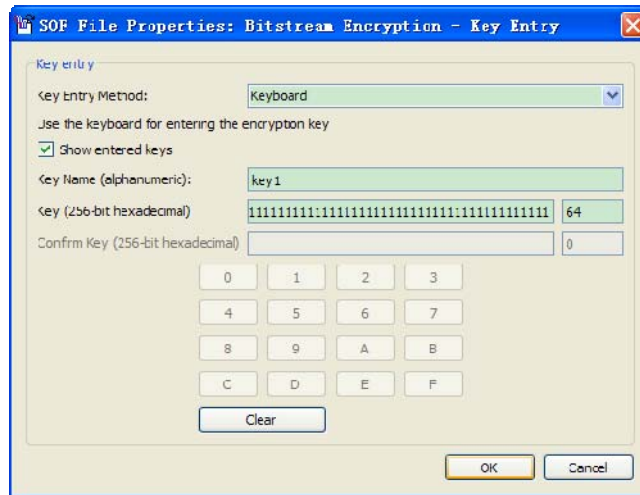

Figure 3-6 Key Entry dialog box
- o. Add the keys to the pull-down list either with a .key file or the Add button. The Add and Edit buttons bring up the **Key Entry** dialog box. The Delete button deletes the currently selected key from the pull-down list, as shown in Figure 3-6. Key Entry Method is Keyboard, set the key to all "1". Key 2 is also the same as shown in Figure 3-5.